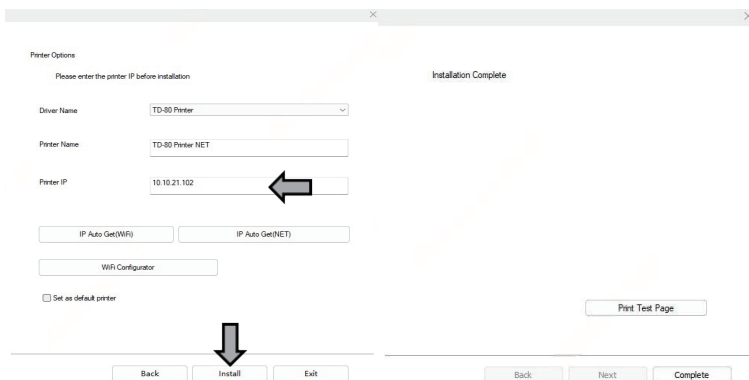
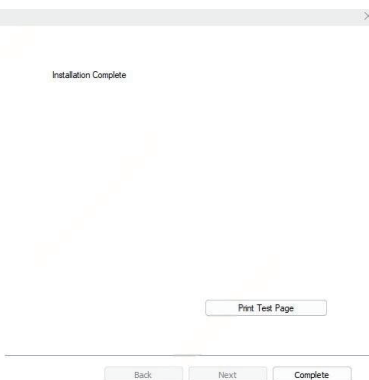

Fig.13
Fig.14
⑦ From the Network Installation interface, select “IP Auto Get(NET)” . After the IP address has been successfully obtained, click “Install” to proceed (see Figure 13), and wait for the driver installation to complete (see Figure 14).